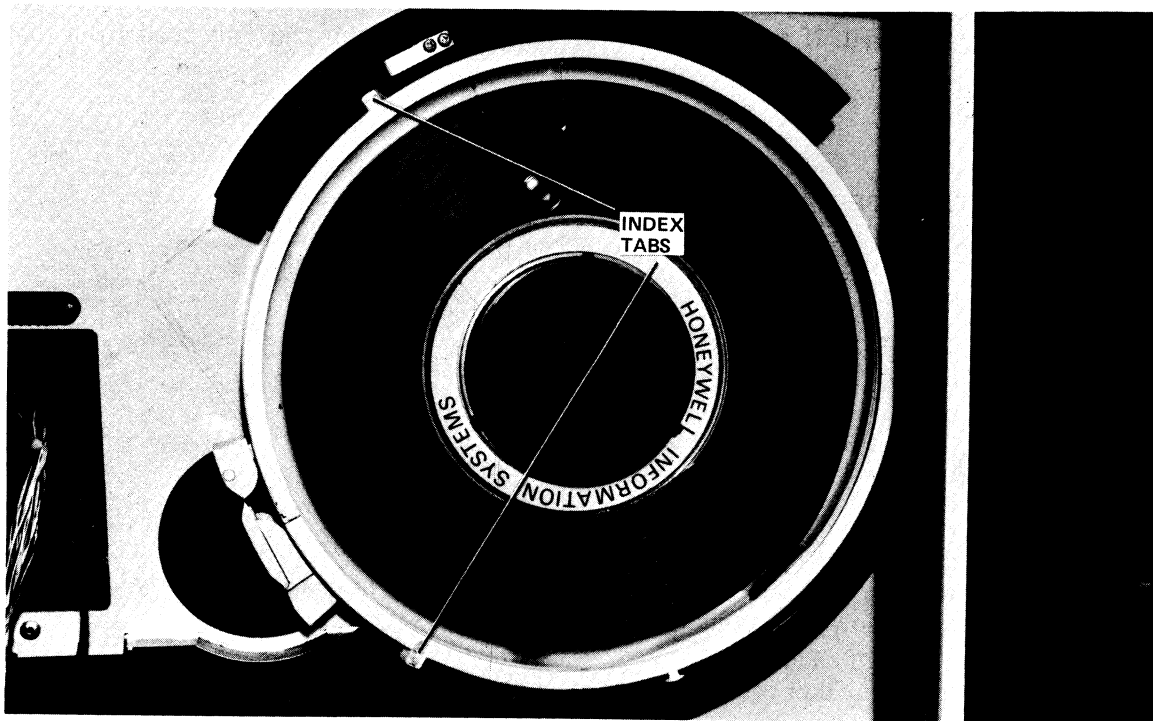

Figure 4-2. Self-Loading Cartridge Mounting
- Make sure the index tabs on the cartridge fit into the corresponding receptacles on the tape unit (see Figure 4-2).